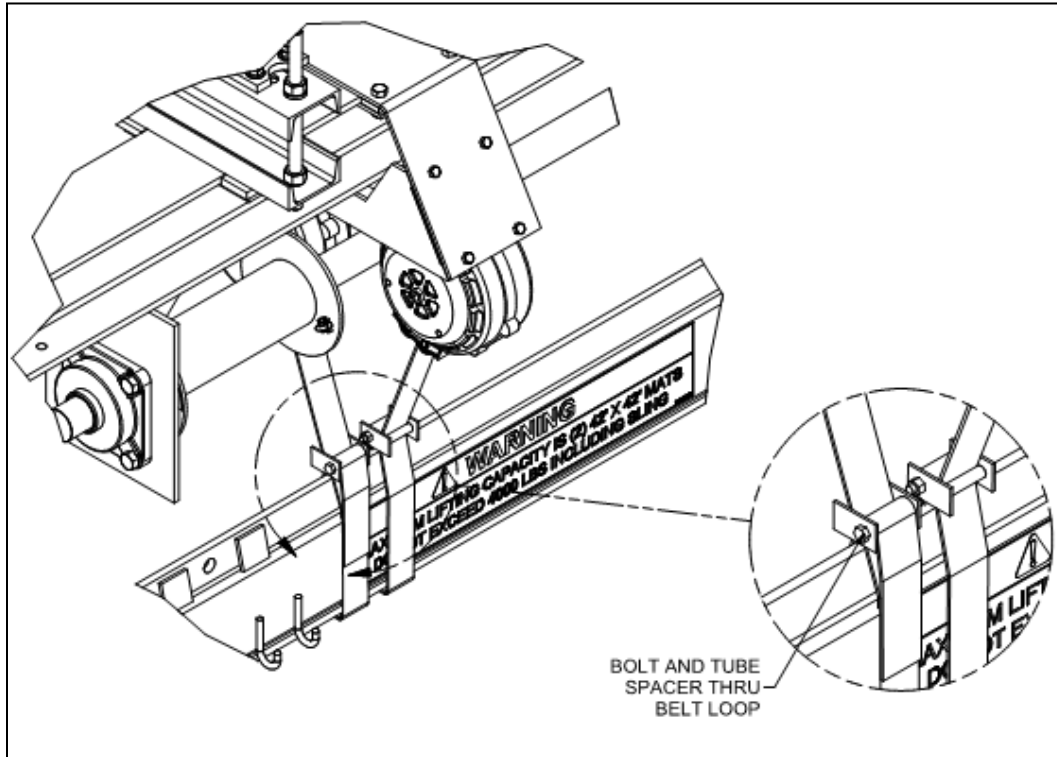

Figure 9
8. Pull the strap from the 1100 safe stop and wrap it around the load bar. Slide the securing clip around the belt and place the spacer and bolt through the belt loop such that the belt is captured in the clip (Figure 9).